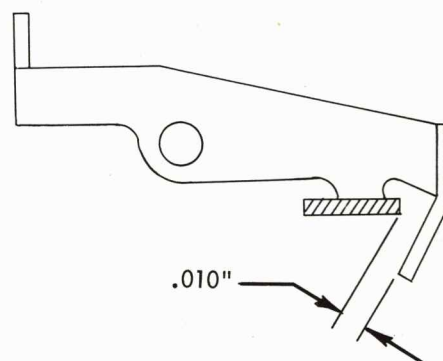

FIGURE 196. Stencil Locking
8. Stencil Lockout (Fig. 196) - With the lift lever in stencil position and the cam follower on the high point of the ribbon feed cam, form the ribbon feed latch for .010" clearance with the lug on the cam follower.